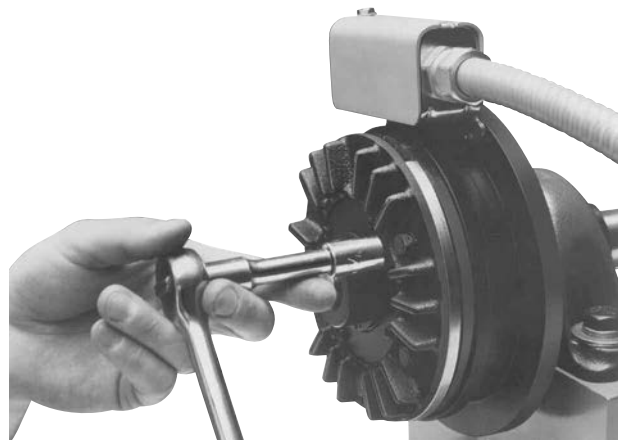

Figure 9
2. Remove hex head capscrews, washers and lock-washers to loosen the armature segments from the cast iron carrier. (See Figure 9)